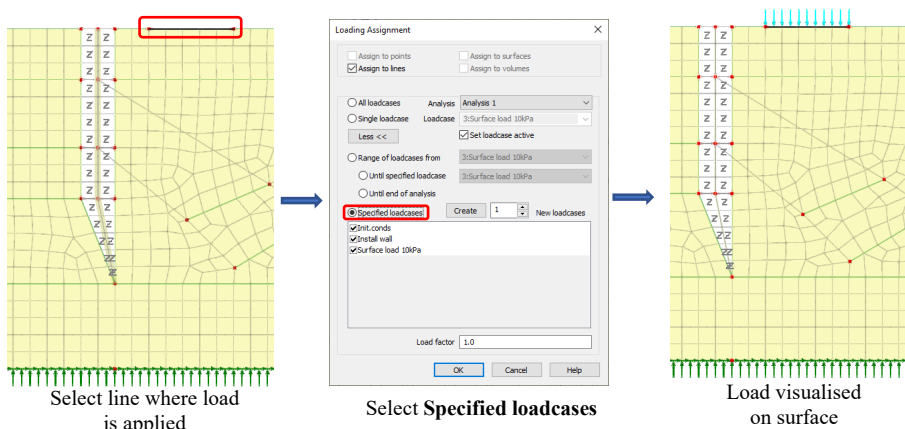

Figure 45: Application of surface load
- Select the line on the surface next to the excavation and assign the loading attribute **Surf.load 10kPa** (figure 45). In the loading assignment dialog set the radio button for **Specified loadcases**. Click **OK**.